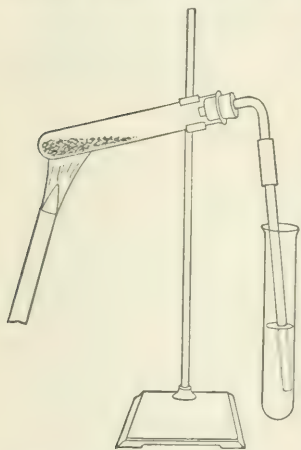

Fig. 70. Heating sodium bicarbonate and passing the gas into limewater.
**a. Effect of heating the bicarbonate.** Put about 2–3 g. of sodium bicarbonate ( $\text{NaHCO}_3$ ) into a test tube and clamp it so that the mouth is inclined slightly upwards. Arrange the delivery tube so that it leads into a test tube containing limewater ( $\text{Ca}(\text{OH})_2$ ) (Fig. 70). Warm the bicarbonate gently with a small flame, taking care not to heat the test tube hot enough to color the flame yellow.